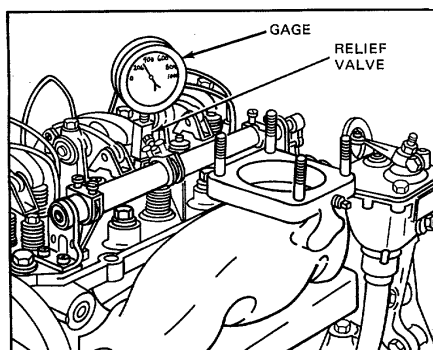

Figure 1. Checking Compression Pressure
3. Remove the injector and install adaptor J 7915-02 and pressure gage and hose assembly J 6692 (Fig. 1).
On turbocharged engines, check the exhaust-back pressure in the exhaust piping 6 to 12 inches from the turbine outlet (Fig. 1, *Engine Operating Conditions Specifications*). The tapped hole must be in a comparatively straight pipe area for an accurate measurement.